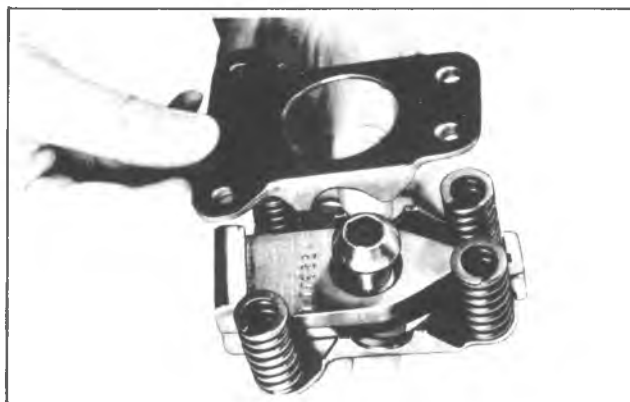

Fig. 12D--Installing Spring Pack Compression Tool (Corvette)
17. **On Corvette** install Tool J-22311 to compress clutch pack, , secure pack with 1/4" bolts as shown in figure 12D. Partially install pack then remove bolts and complete pack installation. Remove tool.